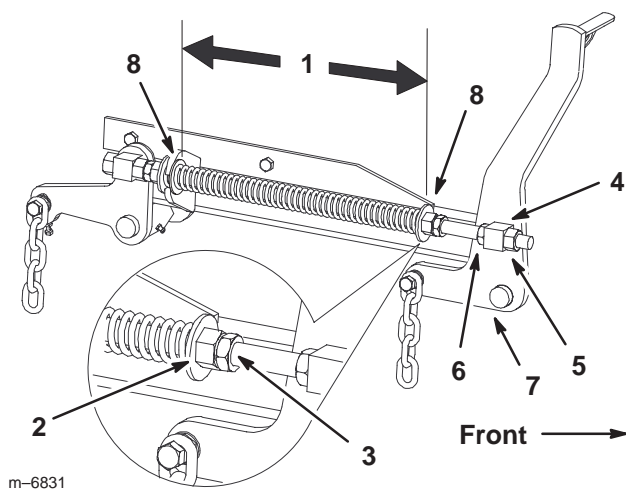

Figure 72
7. Loosen the front swivel jam nuts, at the front of the right and left swivels, approximately a 1/2 inch (13 mm) (Fig. 72).
8. Adjust the lift nuts on both the left and the right side of the machine to achieve **1/4 to 3/8 inch (6 to 10 mm) lower in front at A than in the rear at B** (Fig. 72).
1. Raise the mower lift lever to the transport position (Fig. 72).
2. Check the distance between the two large washers, it needs to be 11–1/8 inches (28.3 cm) (Fig. 72).
3. Adjust this distance, by loosening the spring jam nut and turning the nut in front of each spring (Fig. 72). Turning the nut clockwise will shorten the spring; counter-clockwise will lengthen the spring.
4. Lock the nut into position by tightening the spring jam nut (Fig. 72).